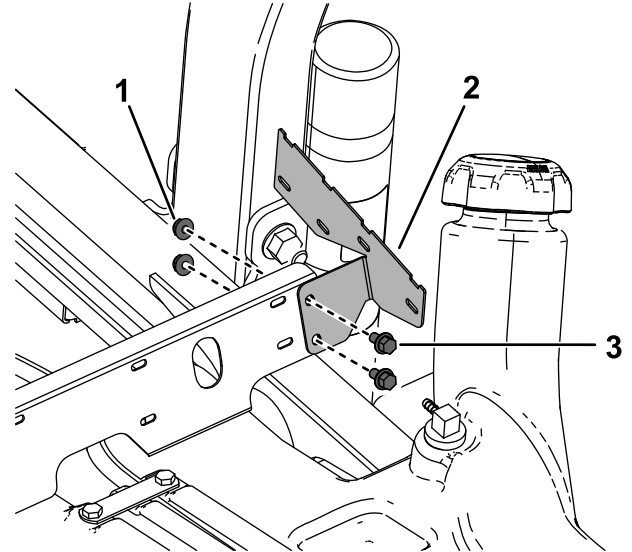

Figure 6
3. Install the small bracket to the heat shield using 2 bolts (1/4 x 1/2 inch) and 2 nuts (1/4 inch) as shown in Figure 6. Torque the bolts to 1017 to 1243 N·cm (90 to 110 in-lb).